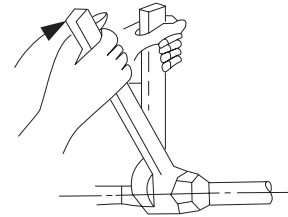

Fig. 14 – Tighten Flare Nut
6. Tighten flare nut and finish installation using two wrenches as shown in Fig. 14.